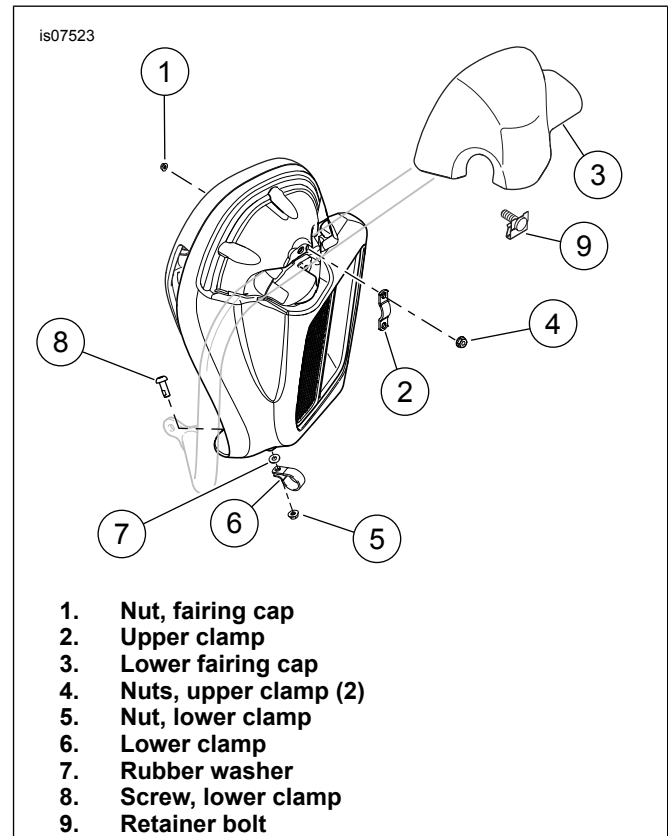

Figure 1. Stock Lower Fairing
2. See Figure 1. Remove flange nut (1) securing lower fairing cap (3). Remove fairing cap.
3. Remove retainer bolt (9) from fairing cap. Use care not to damage clip mounts.
4. Remove lower fairing clamp screw (8), washer (7), clamp (6) and nut (5).
5. Remove flange nuts (4) securing upper clamp (2). Remove upper clamp.